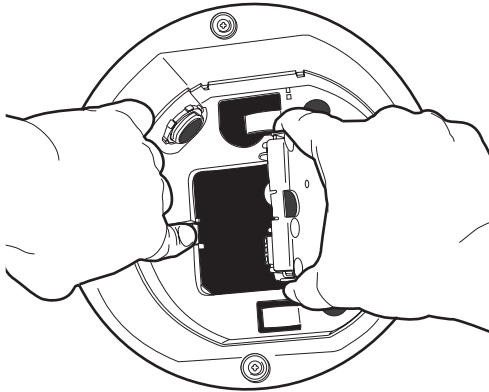

Figure 7. Spectra III/Spectra IV Back Box Interconnect Door
- a. Open the hinged door to the back box. Push the tab lock towards the back box wall of the unit and open the door (refer to Figure 7).